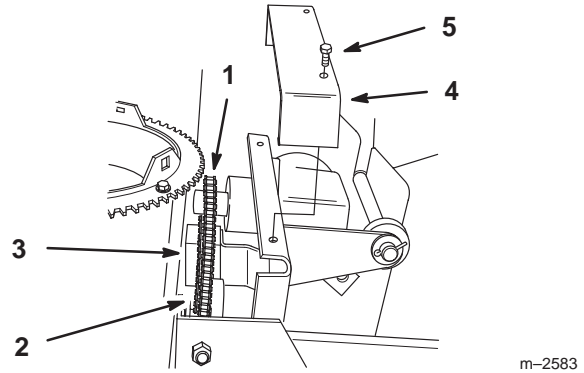

Figure 3
4. Place drive chain on gearbox and large sprockets (Fig. 3).
5. Adjust chain tension block so chain deflects 3/8" to 5/8" between sprockets (Fig. 3).
6. Install chain cover with (2) 1/4 x 1/2" bolts (Fig. 3).